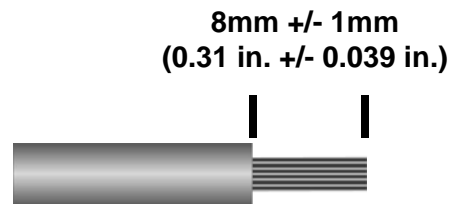

Figure 56. Stripped Wire
3. With a 14-gauge wire insulation stripping tool, strip the three wires in the tray cable coming from the DC input power source to $8\text{mm} \pm 1\text{mm}$ ($0.31\text{ in.} \pm 0.039\text{ in.}$), as shown in Figure 56 on page 96.